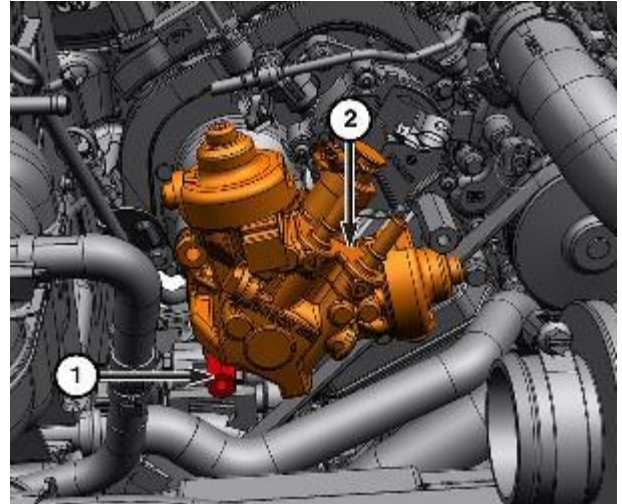

Figure 36 – HPFP Lower Bolt
29. Remove the lower bolt (1) from the HPFP and remove it from the vehicle (Figure 36).